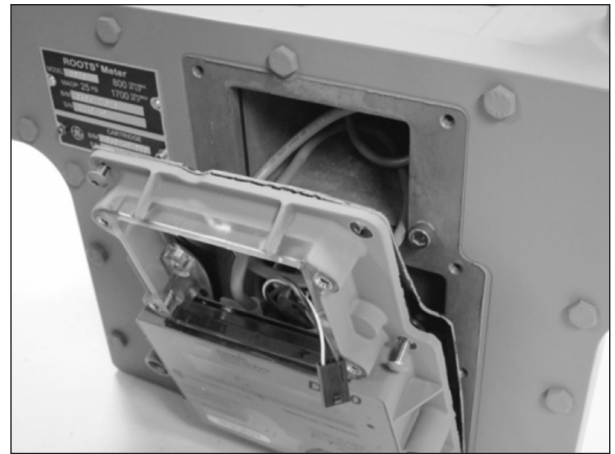

Figure 9.9 - Pull index away from the meter
2. Remove the nine (#10-24) screws on the Index and gently pull the index away from the meter as shown in Figure 9.9.